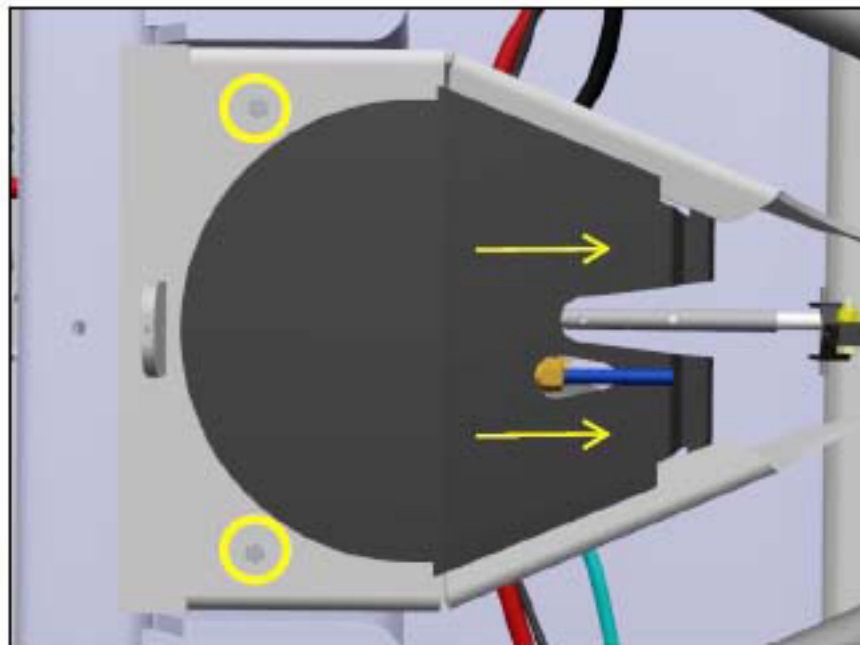

Figure 4 - Dust Pan Removal to Access the Front Harnesses
1.5. To access the front harnesses, remove and retain the two M6 bolts and slide out the dust pan (see Figure 4).